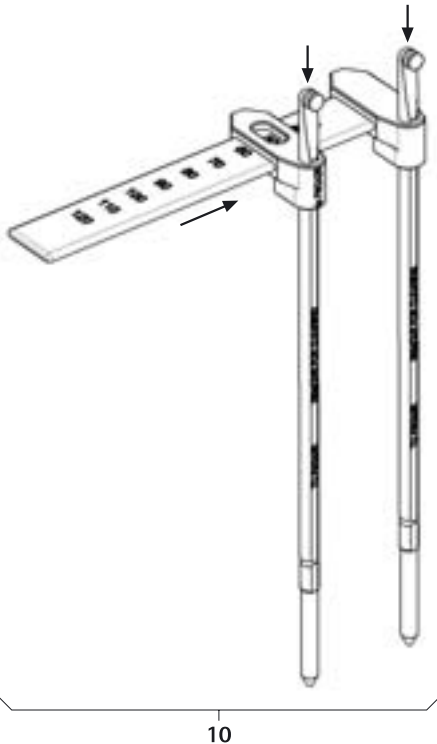

Fig. 10
- Mount rod length measuring instrument 10, see Fig. 10.